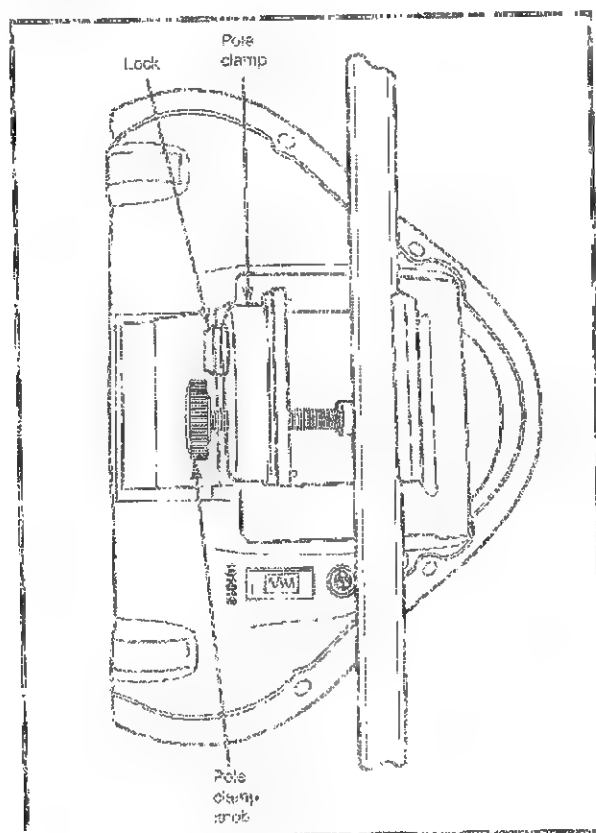

Figure 5
1. Refer to Figure 5. Position the pole clamp around the pole.